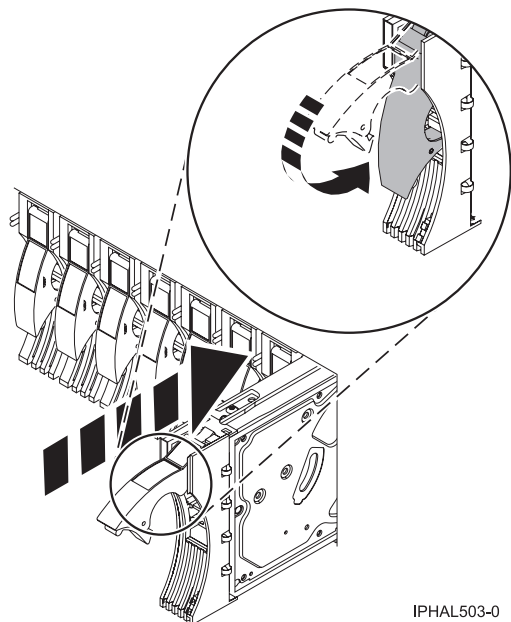

Figure 30. Installing a disk drive in a model a model or 11D/20
6. Push the disk drive handle in until it locks, as shown in Figure 30.